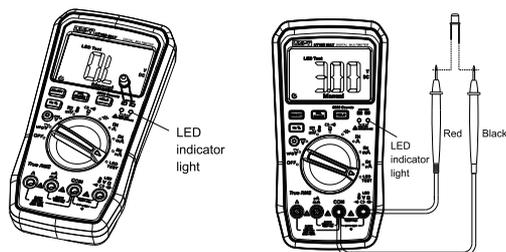

Figure 9
9. Mesure LED (UT18B MAX) (Figure 9)